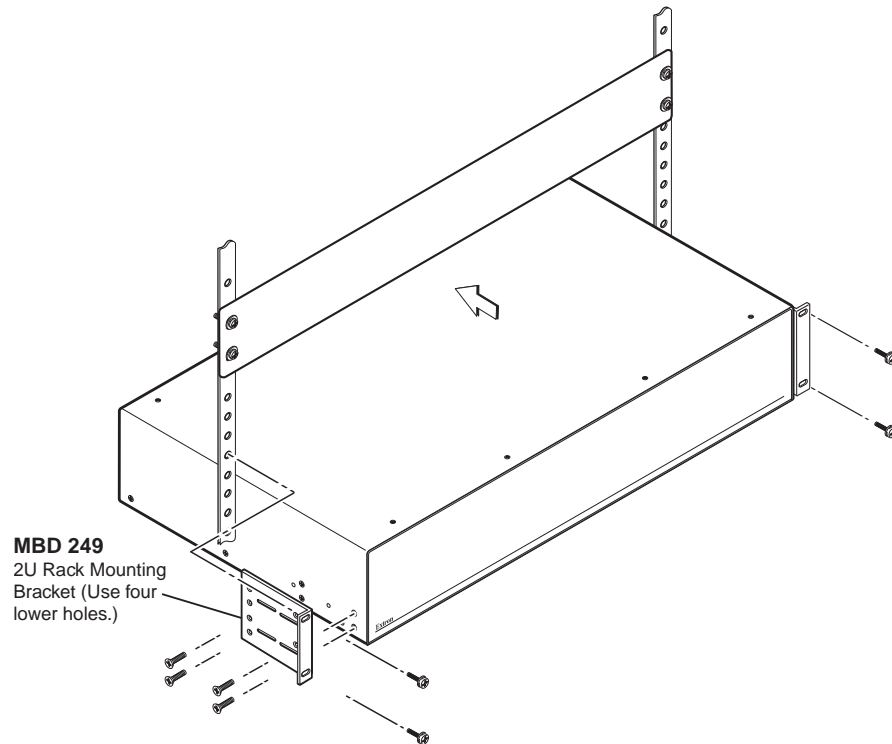

Figure 46. Rack Mounting a WindoWall Pro
1. Attach the included rack/through-desk mounting brackets to the unit, using eight of the machine screws supplied with the mounting kit (see figure 46).